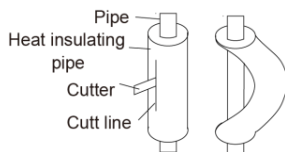

Fig. 10
- (2). Do not bend the pipes in an angle more than 90°.
- (3). When pipes are repeatedly bent or stretched, the material will harden, making it difficult to bend or stretch them any more. Do not bend or stretch the pipes more than three times.
- (4). When bending the pipe, do not bend it as is. The pipe will be collapsed. In this case, cut the heat insulating pipe with a sharp cutter as shown in Fig. 10, and bend it after exposing the pipe. After bending the pipe as you want, be sure to put the heat insulating pipe back on the pipe, and secure it with tape.